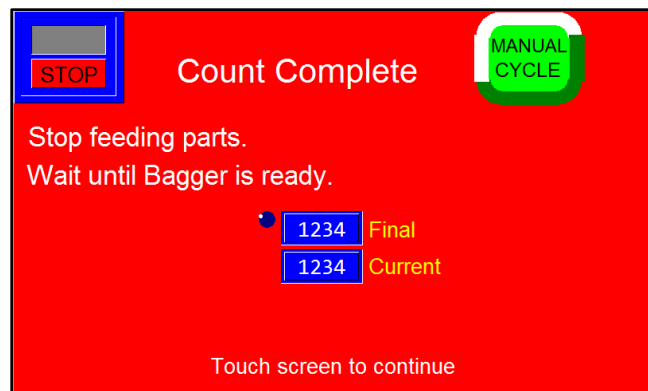

Figure 3-22
**Message ON / OFF button:** If this function is turned on, a message will be displayed when the final count is reached. This message will inform the operator to stop loading until the bagger is ready to receive the next batch. See Figure 3-22